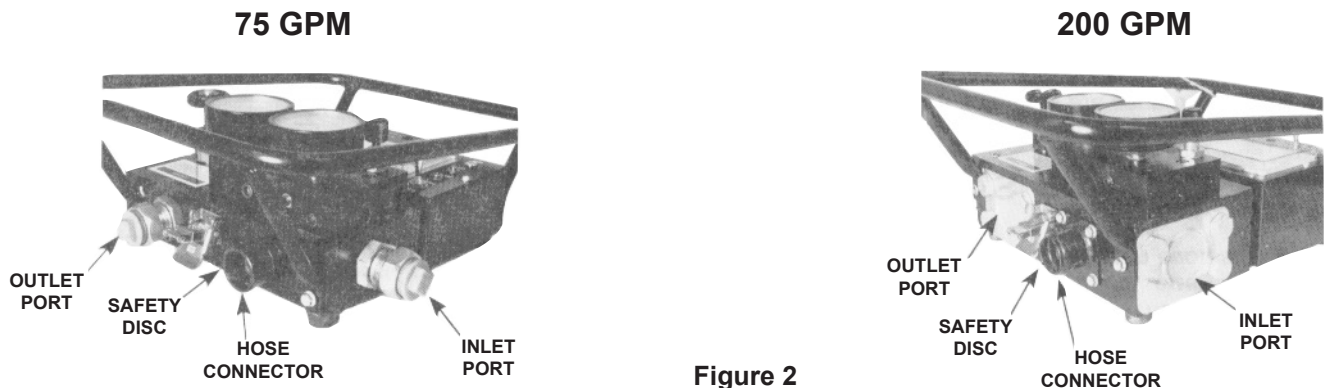

Figure 2
**200 GPM Tester:** The battery panel is located to the right of the meter panel. Remove the two screws, and lift the panel from the case. Insert the batteries into the spring clips and fasten the battery contacts. See Figure 2.
**75 GPM Tester:** The inlet and outlet ports (shown in Figure 2) are designed for SAE straight o-ring union adapters, 1-1/16-12 male thread by 3/4 NPSM female straight union. When the tester is not being used, always insert the port plugs to protect the unit from damage or contamination.
**200 GPM Tester:** The inlet and outlet ports (shown in Figure 2) are designed for SAE Standard 1 1/2 inch, 4-bolt split flange fittings. Flange bolts must be 1/2-13 UNC by 1 1/2 inch long SAE Grade 5 with spring lockwashers, torqued at 55/65 ft. lbs. When the tester is not being used, always assemble the cover plates to protect the tester from damage or contamination.
**OVERLOAD PROTECTION SAFETY DISC:** A safety disc located at the back of the tester (See Figure 2) protects the flow tester from extreme pressure. If pressure exceeds the ranges listed in the following chart, the disc ruptures, relieving oil and reducing pressure before damage can occur. A hose connector surrounds the disc to act as a shield against oil spray should the disc rupture. For more protection, a 1 1/4 inch I.D. hose should be inserted into the connector and clamped in place. This hose should be long enough to direct oil back to the reservoir or another container.